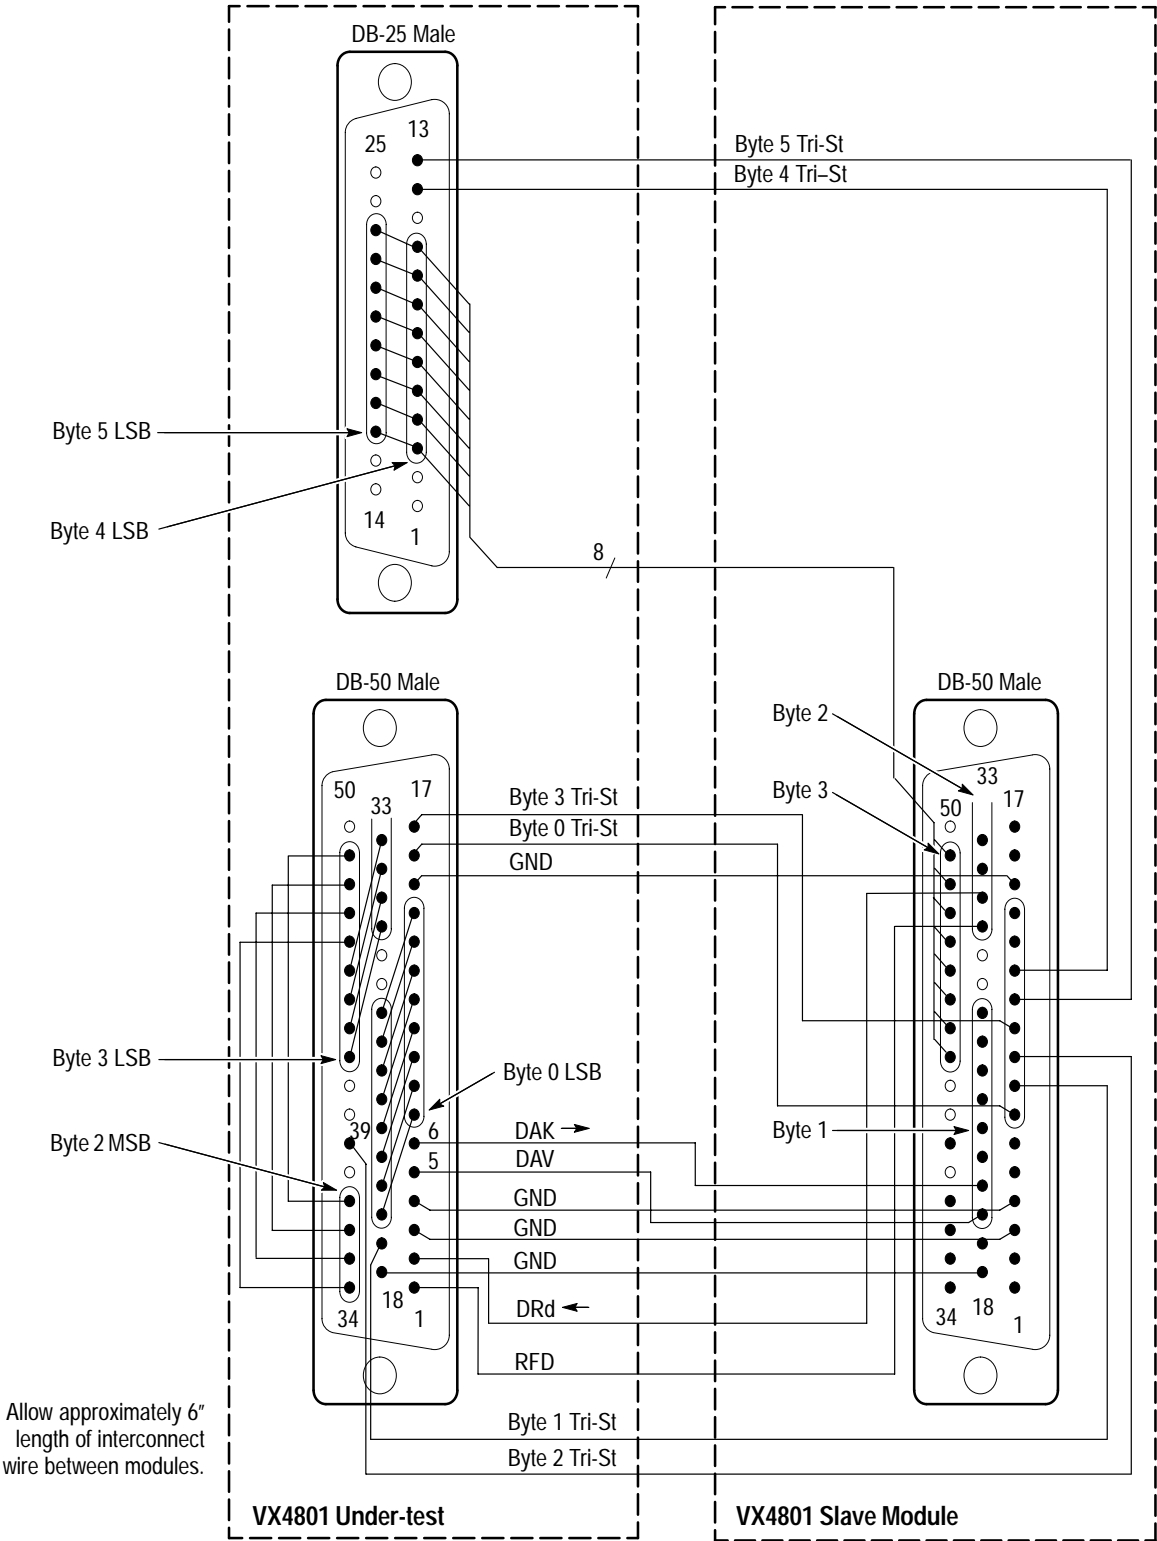

Figure 4: Loop-Back Cable Assembly (View of Solder Side)
- 1.** Attach the loop-back assembly as shown in Figure 4, which connects the odd bytes to the even bytes respectively (0 to 1, 2 to 3, 4 to 5).